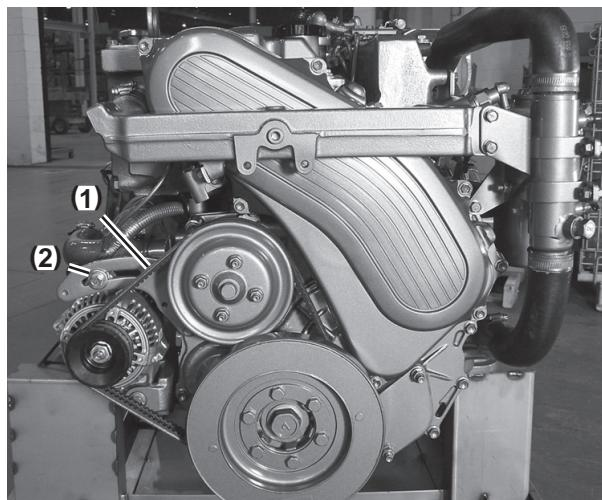

Figure 4-14
1. Check the belt by pushing on the middle of the belt (**Figure 4-14, (1)**) with your finger. With proper tension, the belt should deflect 8 to 10 mm (approximately 3/8 in.).
2. Loosen the alternator bolt (**Figure 4-14, (2)**) and move the alternator to adjust the V-belt tension.